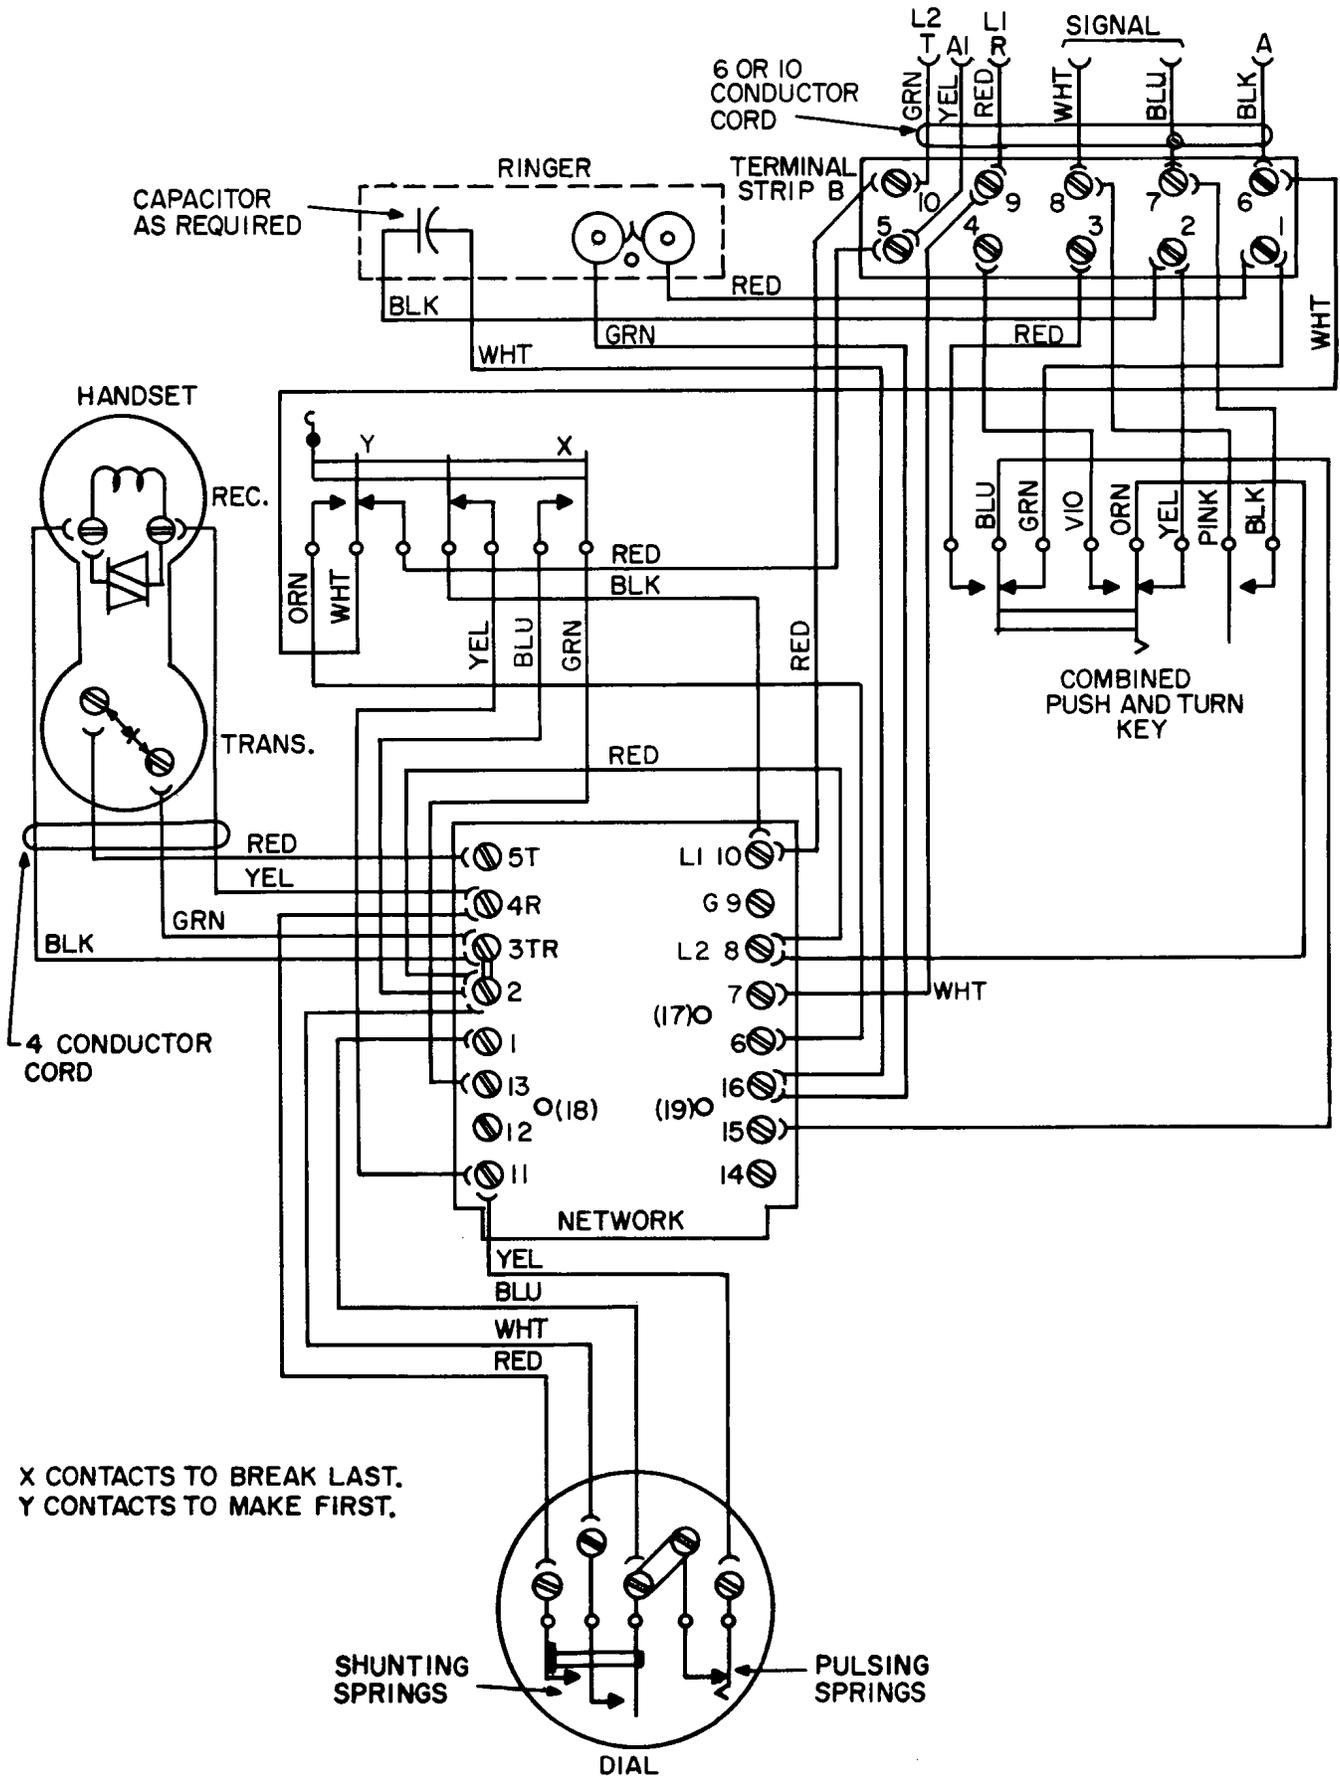

Figure 2. Wiring Diagram of Modified Type 85A Telephone Set With Potted Self-Compensating Network.
3.01 Prior to the introduction of the printed-circuit network board, Type 85 telephone sets were assembled with self-compensating network components mounted in a shallow styrene shell and potted with a jelly-like compound. The wiring diagram of such a set is shown in Figure 2 as modified for key system operation. Follow the same modification procedure as set forth above for the printed-circuit board network in Paragraph 2.01.